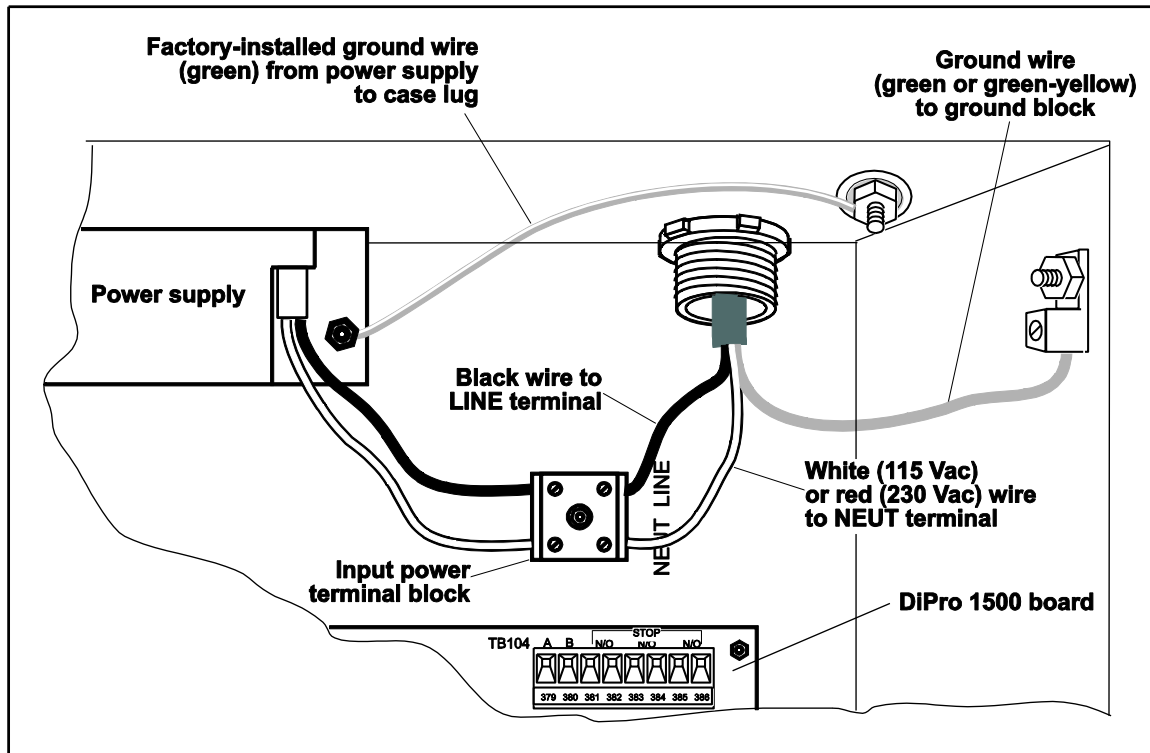

Figure 2-10. Connector and ground block for AC power.
7. First connect the ground (green or green/yellow) wire of the AC power cable to the ground block as shown in Figure 2-10. To connect, strip the ground wire 1/4" (6.4 mm) from the end, loosen the screw on the ground block, slide the wire into the hole, and tighten the screw to secure the wire in place.
8. Connect the line and neutral power wires to the input power terminal block as shown in Figure 2-10. Strip each wire 1/4", insert into the hole indicated and tighten the screw to secure.